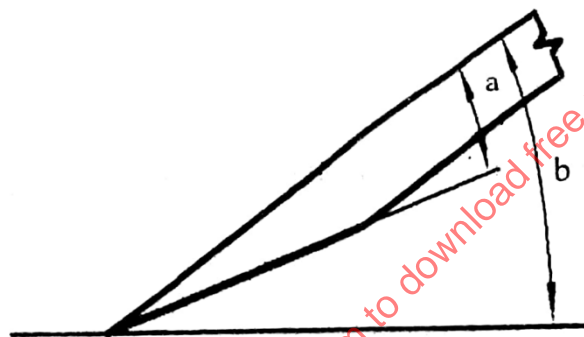

Figure 2
7. Figure 2 shows the cutting edge of a chisel